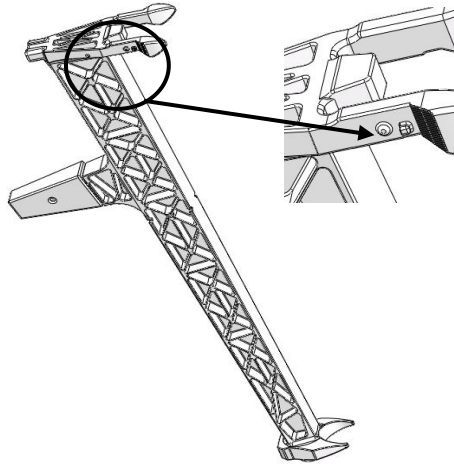

Figure 4
- 3) Pay attention to the raised position on landing gears as Figure 4.